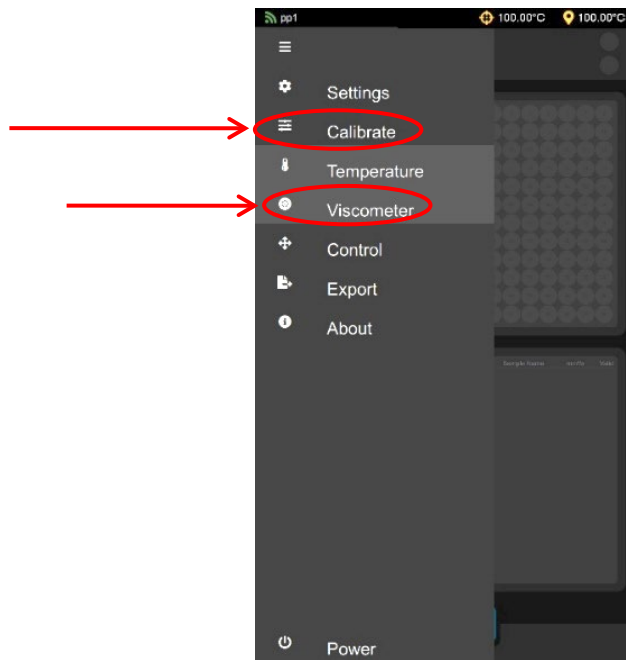

Figure 28: Select Calibrate Viscometer
2. From the **Main Menu** screen, select **Calibrate**. From the **Calibrate** menu, use a single touch to select **Viscometer**. See Figure 28